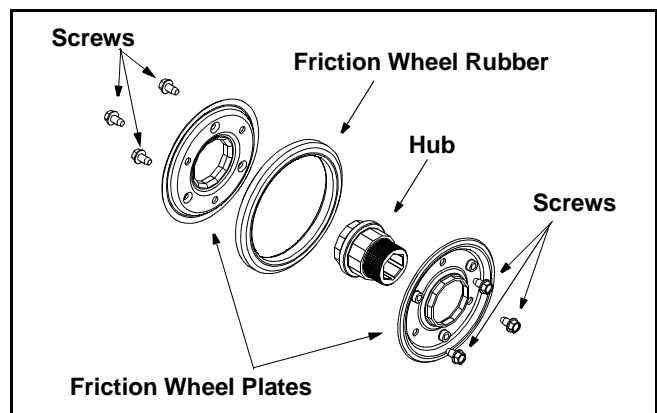

Figure 19
- Remove the six screws from the friction wheel assembly (three from each side). Remove the friction wheel rubber from between the friction wheel plates. See Figure 19.